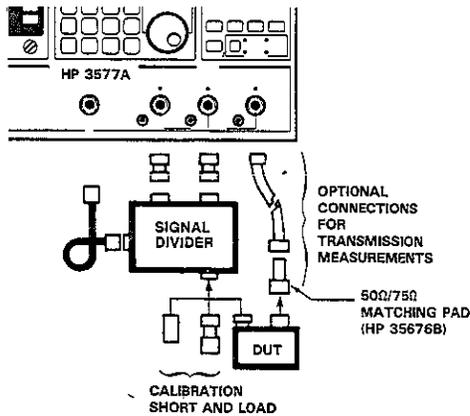

Figure 3. Signal Divider Connections
The HP 35676A/B signal divider is designed to mount directly to the HP 3577A. Figure 3 illustrates the connections. The HP 3577A RECEIVER R and RECEIVER A ports connect to the signal divider OUTPUT R and OUTPUT A ports with the male-to-male type N adapters. The HP 3577A SOURCE OUTPUT port connects to the signal divider RF INPUT port with the semi-rigid coaxial cable assembly.
8. Connect the signal divider RF INPUT, OUTPUT A, and OUTPUT R ports to the HP 3577A with the connectors supplied with the HP 35676A/B test kit. See Figure 3.